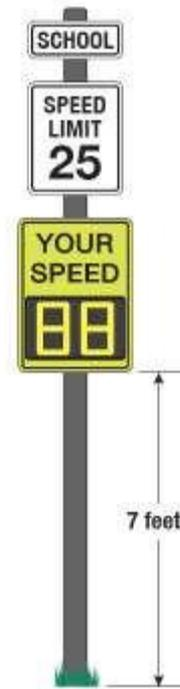

Figure 6-1. Typical DFB Mounting
2. The bottom of the sign should be about 7 feet above the ground as shown in Figure 6-1. Aim and band the sign to the pole. Optionally, the sign can also be anchored to the pole using a secondary mounting method.